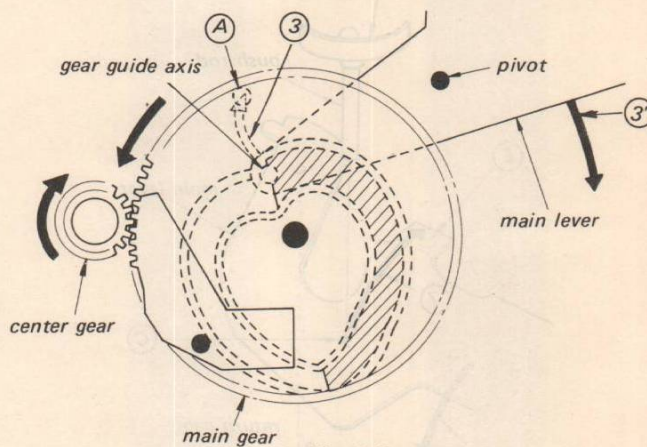
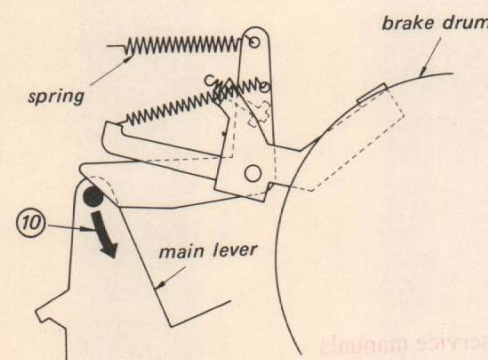

Fig. 3-3.
Fig. 3-8.
4. The gear guide axis at the tip of the main lever, is guided by the shaded section of the heart-shaped cam groove located on the main gear, moving across in a curved path ③ to position A. Therefore, the main lever moves in the direction of arrow ③'. (See Fig. 3-3.)
2. During lead-in, the main lever moves across in the direction of arrow 3' (See Fig. 3-3), resulting in the position of the central axis of the push rod moving across as shown by arrow 7. (Fig. 3-5.)
6. The return operation is completed when the tonearm arrives back at the arm rest. The main gear comes to a stop in the position shown in Fig. 3-3.
Furthermore, a spring is also employed to exert pressure upon the main lever in the direction of arrow 10 (see Fig. 3-8), thus keeping the main gear in the stop position. (See Fig. 3-3.)